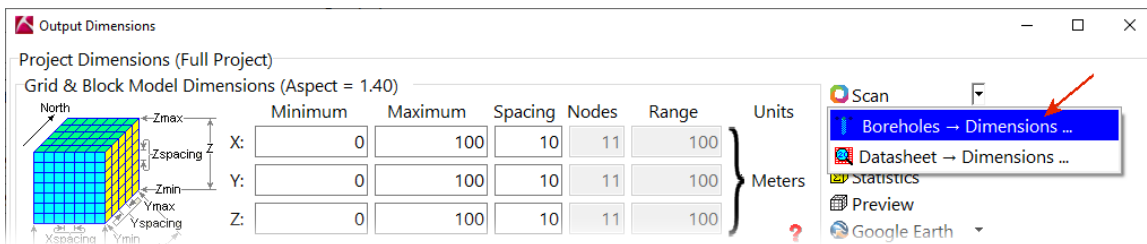

Figure 48
- Click the *Yes* button and then select the *Scan / Boreholes -> Dimensions* option within the *Output Dimensions* menu (Figure 48).